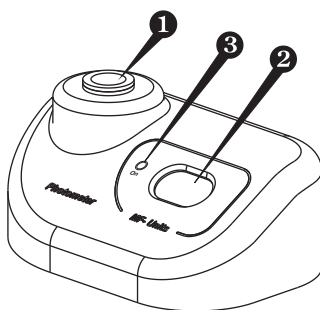

Fig.3 General view
- 3.4.5. Insert the tube with the calibration value corresponding standard into the socket (fig.3/❶) of Densitometer.
- The display goes off, if no tube is inserted in the socket during one minute. Press On key (fig.3/②) to activate the unit.
4.3 The following indication will be shown on the display (fig.3/②):
- 4.4 Shake the tube with the solution (it is recommended to use vortex for shaking, e.g. Vortexer PV-1) and insert into the socket (fig.3/❶). The McFarland value for the solution will be shown on the display (fig.3/❷).